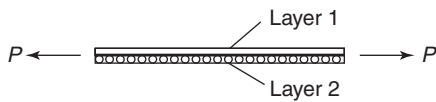

Figure 1.15 Carbon fibre layers
1. Two layers of carbon fibre are stuck to each other, so that their fibres lie at 90° to each other, as shown in Figure 1.15. If a tensile force of 1 kN were applied to this two-layer compound bar, determine the stresses in each. For layer 1, $E_1 = 300$ GPa and $A_1 = 10$ mm²; for layer 2, $E_2 = 50$ GPa and $A_2 = A_1 = 10$ mm².